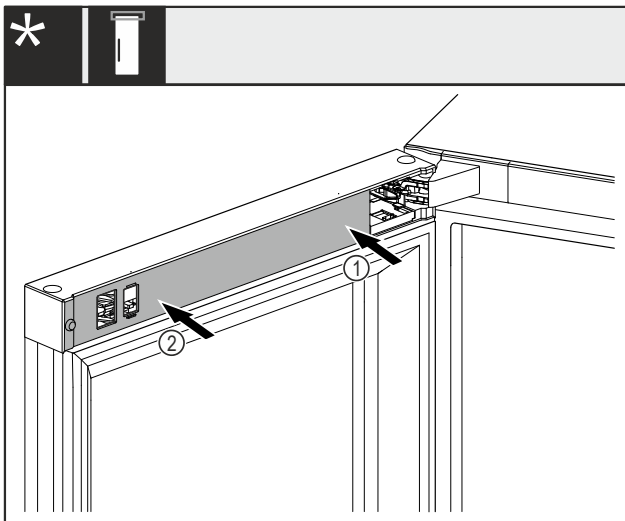

Fig. 37 \*
- ▶ Position the cover Fig. 37 (1) on the swap bearing block side first and snap it in.\*
- ▶ Position the cover Fig. 37 (2) on the outside and snap it in.\*